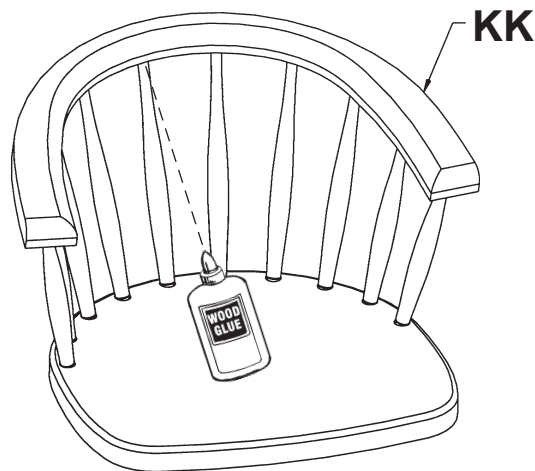

FIG. 2
- 2) To attach the Back (KK), start by applying glue in each spindle hole. (Apply glue carefully, as it may drip out before you have put the back in place.) Begin on one side, gently tapping the back onto each spindle until you have worked your way around to the opposite side as shown in FIGURE 2. Check to see that the back is all the way down on each spindle before setting aside to dry.